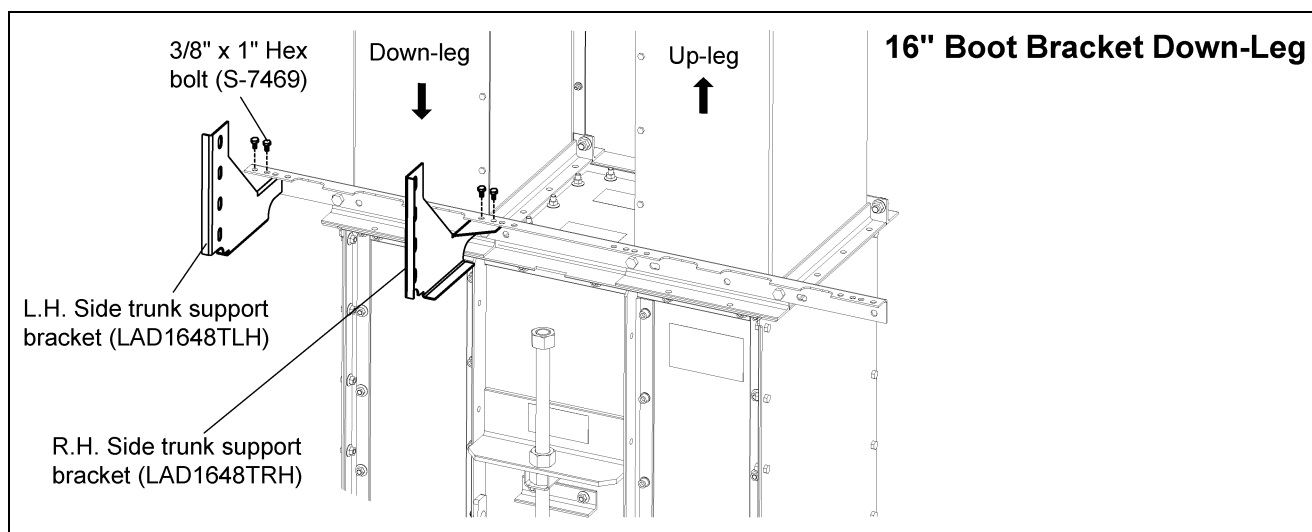

Figure 6C 16" Boot Bracket Down-Leg
1. Using the holes indicated based on bucket elevator size in Figure 6C, attach ladder support brackets to boot tie angle using 3/8" x 1" hex bolts. Remember to double check if the ladder should start on the up-leg side or the down-leg side. (See Figures 6C-6H on Pages 20-23.)
- a. **16" Down-leg boot bracket:** Use 3/8" x 1" hex bolts to attach the ladder support brackets to the boot tie angle using the holes indicated in Figure 6C. Note the outer bracket uses the outer most holes of the tie angle and the inner bracket will have two (2) empty holes beside it on the tie angle.